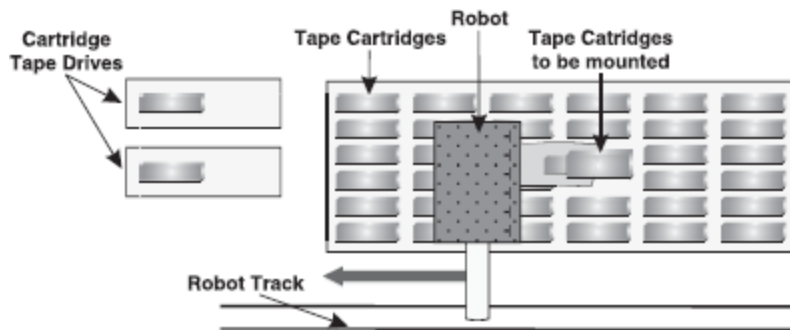

Figure 3.28 Automated Tape Library
- **Automated Tape Library:** An automated tape library comprises numerous sets of magnetic tapes along with their drives and controllers mounted in a single unit (see Figure 3.28). The unit comprises one or more tape drives to perform read/write operations on the tapes in the tape library. In the multiple tape drive environment, these tapes can be simultaneously read or write, thus resulting in the speedy rate of data transfer. Multiple drives lead to the reliability of the storage unit because if one of the drives fails, then the unit can continue to operate with the other tape drives. The unit, with the help of a robotic arm, retrieves the appropriate tape from the tape library, mounts it on the tape drive for processing, and then returns to the library after the job has been finished. These tape libraries can store up to several terabytes of data in it, so they can be used for archiving data for offline storage and also as data backup devices during online storage.